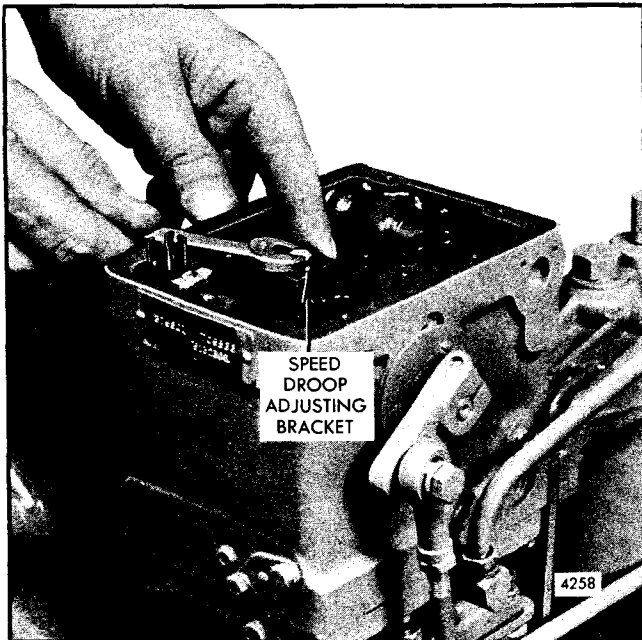

Fig. 7 - Adjusting Speed Droop
3. Loosen the speed droop adjusting bracket screw and move the bracket (Fig. 7) slightly to obtain the desired droop; moving the bracket toward the flyweight end of the actuator will increase the droop. Tighten the screw.